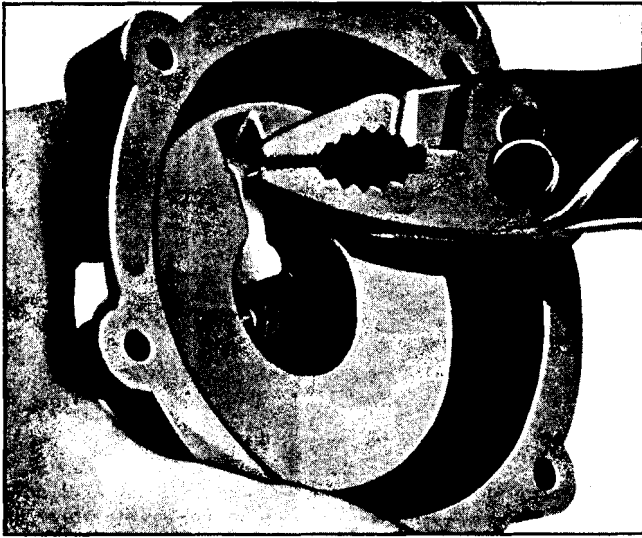

Fig. 4-17 Removing Rocker Arm Pin
6. If necessary, remove rocker and swivel arms. Grip pin with pliers and remove pin (Fig. 4-17).